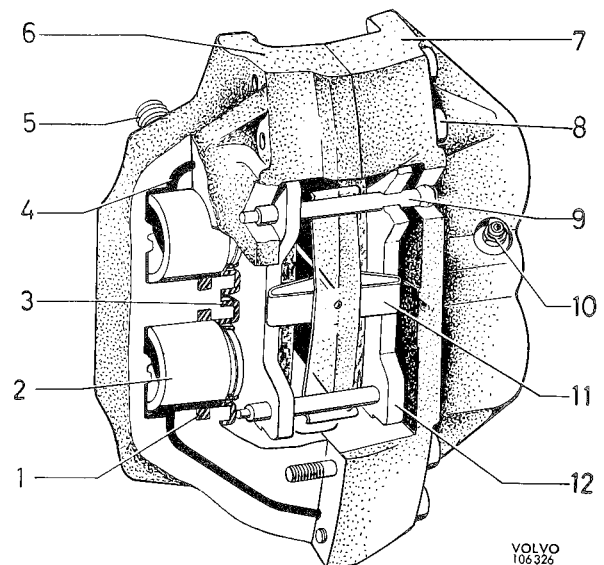

Fig. 5-8. Front wheel brake caliper
Mounted on the stub axle is the front wheel caliper (2) which houses the wheel unit cylinders and brake pads. The front wheel brake caliper consists of a housing in two halves (6 and 7, Fig. 5-8) bolted together and located on either side of the brake disc. Each half contains two cylinders and pistons. The upper cylinder is completely separated from the lower one, but both upper and lower cylinders are each connected through channels to the corresponding cylinder in the other half. The function of the sealing rings (1) is partly to prevent brake fluid from oozing out and partly to return the pistons to the rest position after braking. Rubber dust covers (3) prevent dirt from entering. Each sealing ring has a square section and presses against the piston from the slightly oblique groove